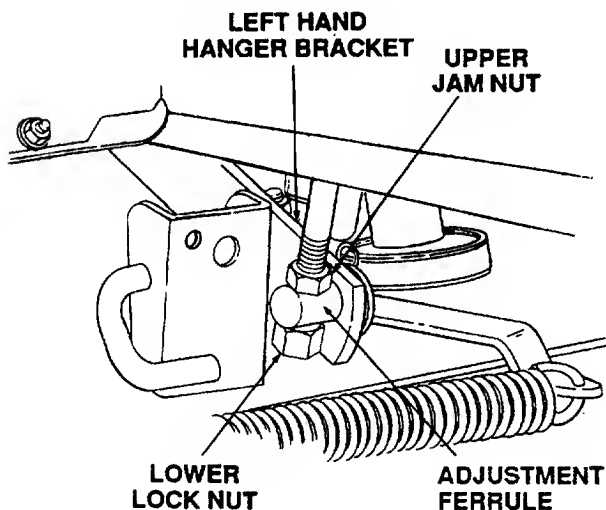

Figure 31
8. Side-to-side leveling is obtained utilizing the adjustment ferrule and left hand hanger bracket (Refer to Figure 31).
9. Loosen the upper jam nut on the hanger bracket. Turn the lower lock nut clockwise to raise the left side of the mower deck. Turn the lock nut counterclockwise to lower the left side of the mower deck (Refer to Figure 31).